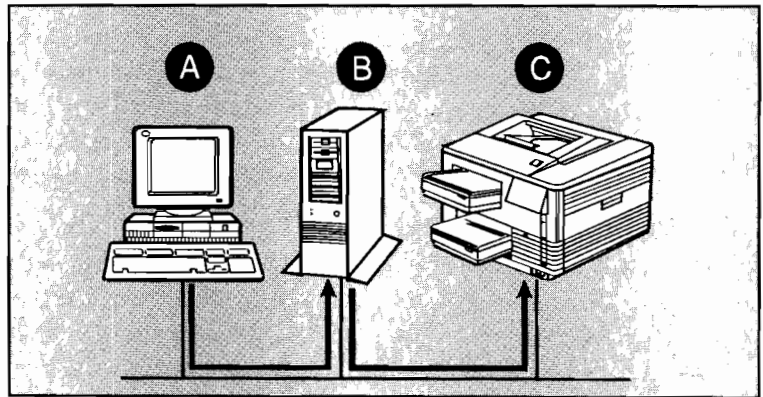

Figure 1-2.
When a user at a workstation prints a document, the print data does not go immediately to the printer. Instead, the data follows the path illustrated by Figure 1-2. First the user prints the job at the workstation (A). The job travels to the LAN Manager server (B) where it is stored in a print queue. When the printer is ready to print a job, the LAN Manager server moves the print job to the printer (C) where it prints.